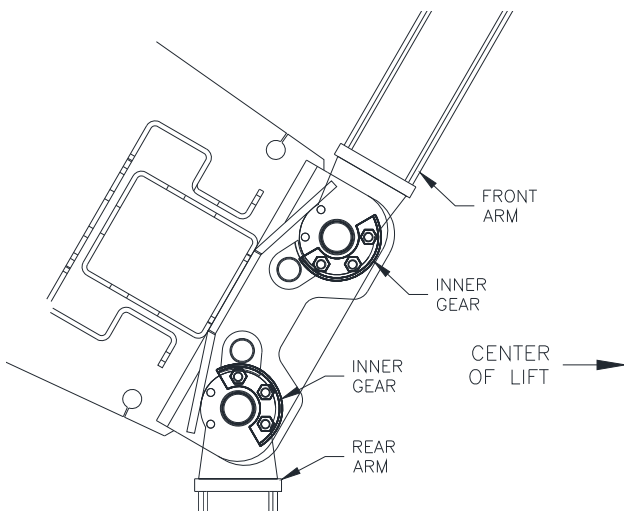

Fig 21 – Asymmetric Inner Gear
39) With arms spread open, Inner Gear should be rotated to face center of lift for all (4) arms as shown in Fig 21. Lubricate the Arm Pin or carriage arm pin hole with “anti-seize” and install the arms. Place snap ring in groove on bottom of Arm Pin. Ensure that the arm restraint gears engage and disengage properly. Arm restraint gears should disengage completely when lift is fully lowered. When gears are engaged, Outer Gear should lower enough for top of teeth to be level with top of Inner Gear teeth. If any binding occurs, adjust Inner Gear as necessary.